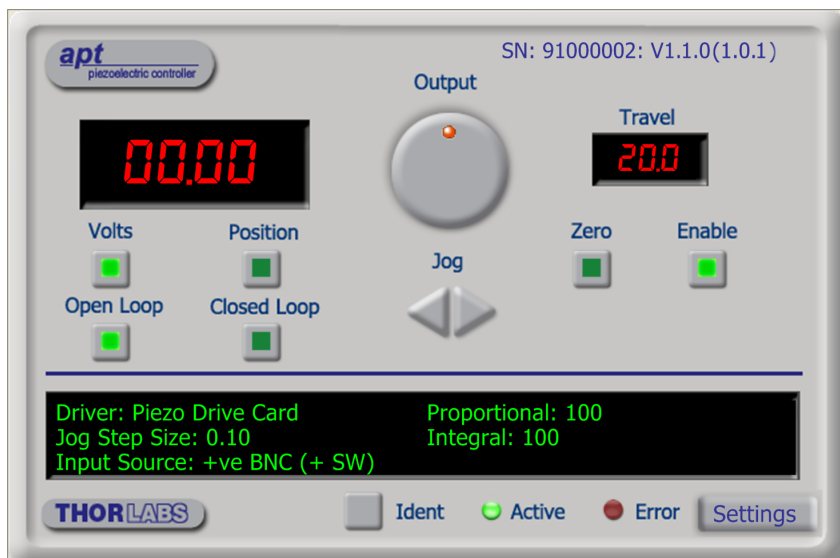

Fig. 4.2 Piezo Controller Software GUI
- 2) Notice how the total travel for the associated piezo is displayed in the 'Travel' window - see Fig. 4.2.